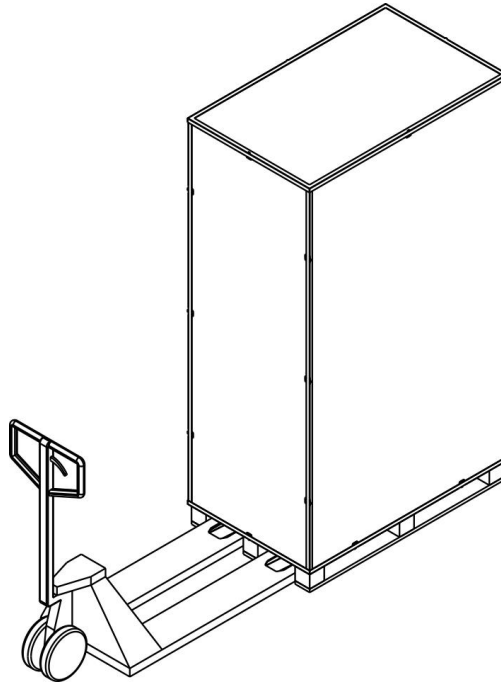

Figure 2-1
1. Use a forklift to move the product to installation area. Refer to Figure 2-1. Please make sure the bearing capacity of forklift is sufficient.